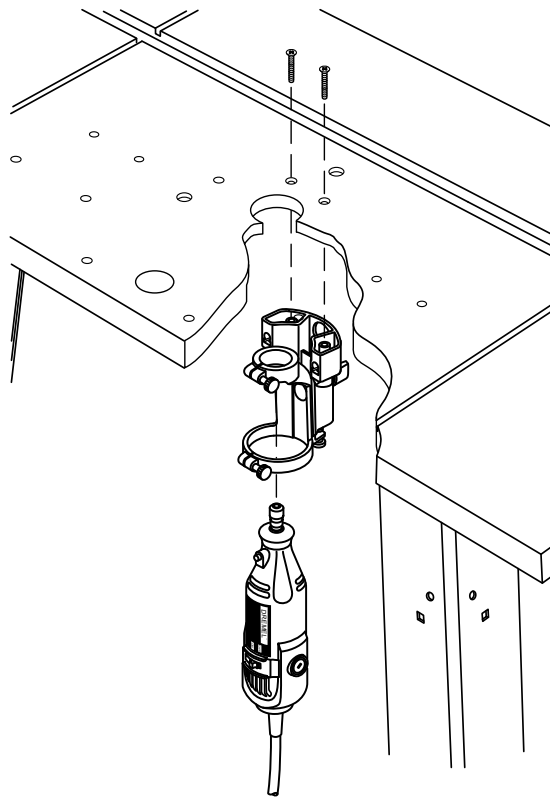

Figure 30
1. Attach the Dremel™ Rotary Hobby Tool to the Tool Holder Assembly from the Dremel™ #330 Router Attachment Kit as stated in the Router Attachment Kit Owner's Manual. See Figure 30, below.